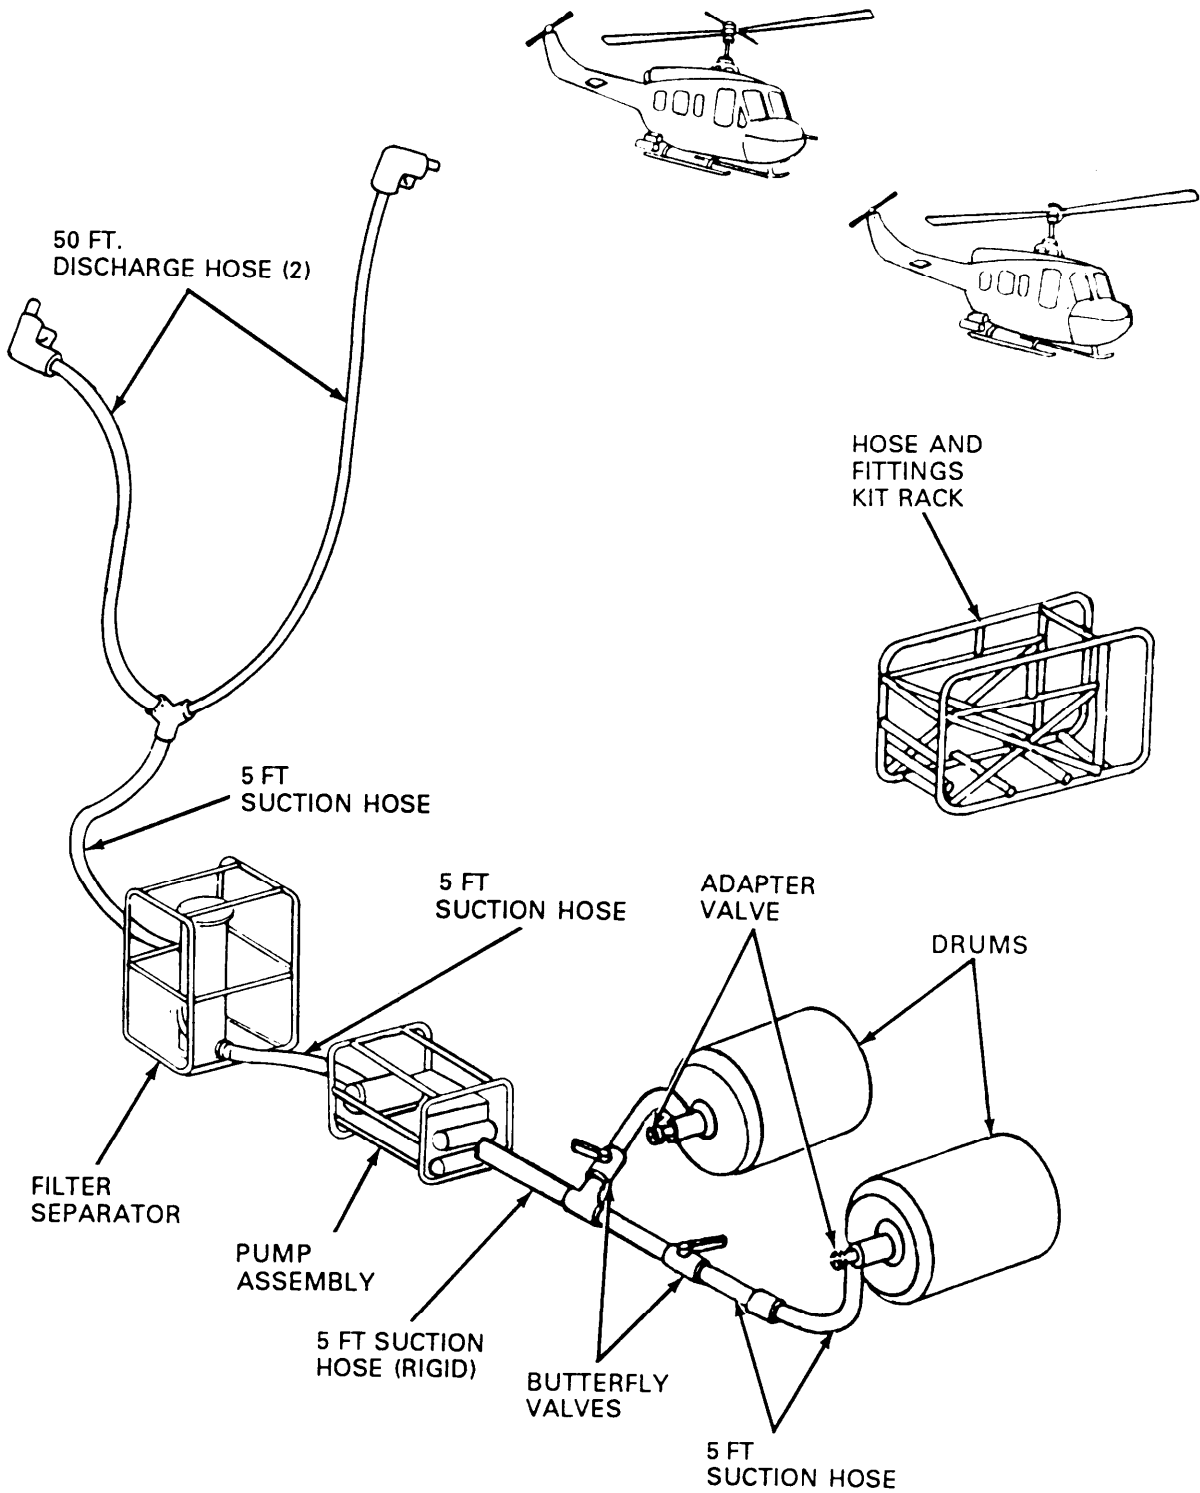

Figure 1-1. Typical Layout of FARE.
b. Equipment Name. Forward Area Refueling Equipment, hereinafter referred to as FARE (figure 1-1)